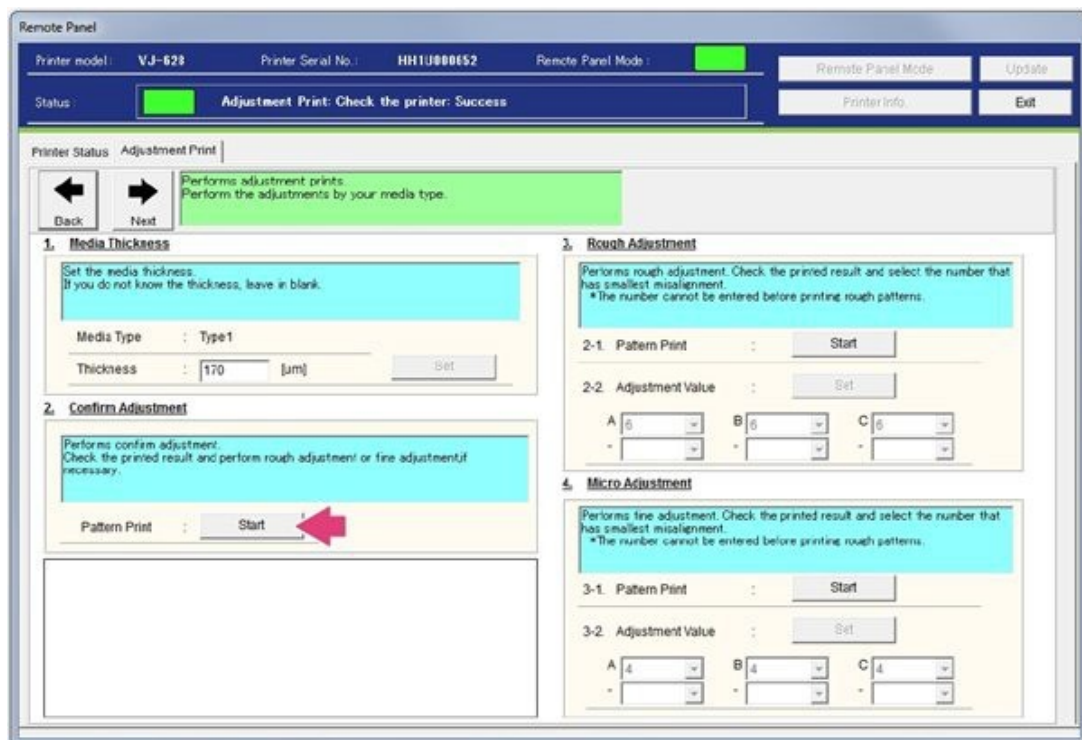

Figure 79
66. You will now begin Confirm Adjustment pattern printing. Select **Start** to begin. See Figure 79.